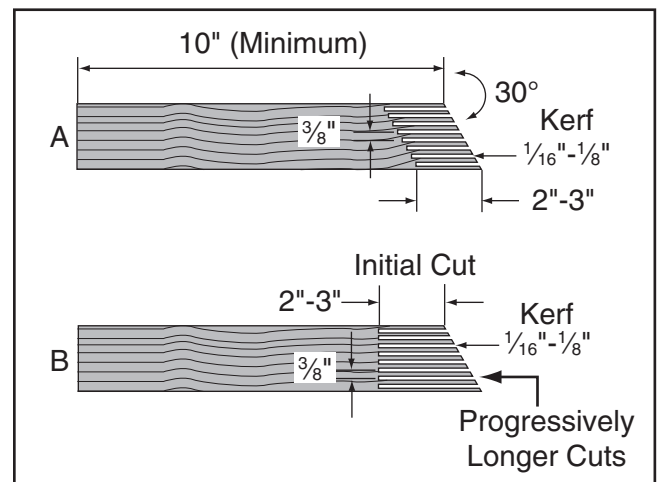

Figure 80. Patterns for featherboards (top view shown).
3. Make a series of end cuts with the grain $\frac{3}{8}$ "– $\frac{1}{4}$ " apart and 2"–3" long, as shown in **Figure 80** (A). Alternatively, start cuts at 2"–3" deep, then make them progressively deeper, as shown in **Figure 80** (B). Cuts made across the grain will result in weak fingers that will easily break.